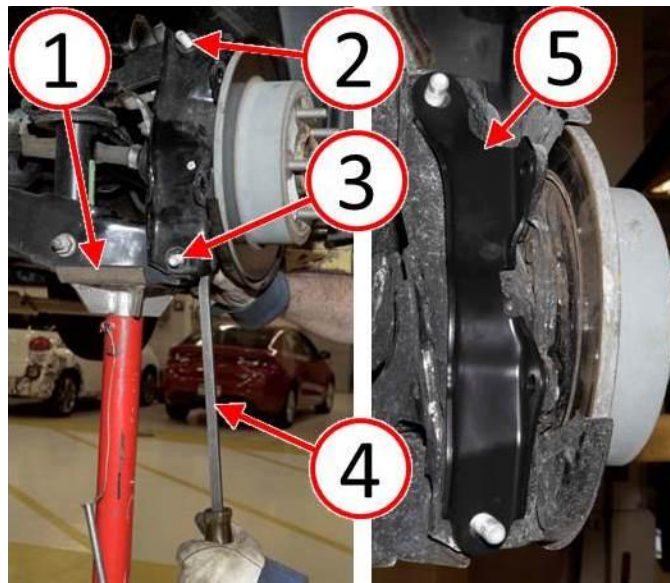

Fig. 2 Install Anti-Vibration Bracket
WARNING: To prevent personal injury and vehicle damage, use a suitable stand (1) to properly support suspension components while replacing the bolts (2 and 3) securing the control arms to the trailing link (Fig. 2).
6. Remove and discard the bolt (2) securing the upper control arm to the trailing link (Fig. 2). Install the **NEW** bolt included with the anti-vibration bracket service kit.
NOTE: It may be helpful to use a pry bar (4) to align the bolt holes in the lower control arm and the trailing link (Fig. 2).
7. Remove and discard the bolt (3) securing the lower control arm to the trailing link (Fig. 2). Install the **NEW** bolt included with the anti-vibration bracket service kit.
8. Install the anti-vibration bracket (5) to the upper and lower control arm bolts (Fig. 2).